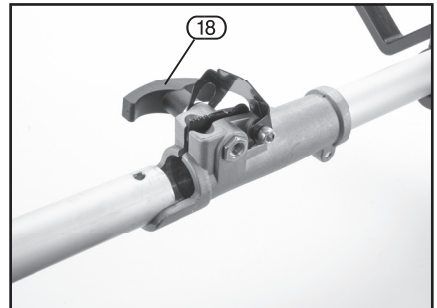

FIG. 15
9.7 CONNECTING THE ATTACHMENTS - FIG.15
- Make sure the locking handle (18) is loose by turning it anticlockwise a few turns.
- Pull back on the positioning pin (19) and move it to one side, clear of the hole.
- Line up the holes in both shafts before locating pin (19).
- Tighten the locking handle (18) clockwise to secure the two sections together.